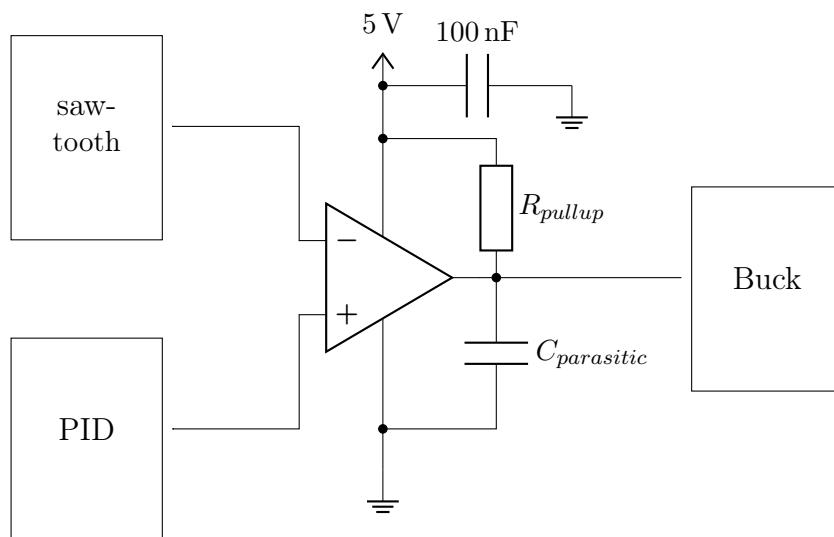

Figure 8.5.: Circuit Implementation of the PWM Generator using the LM393 Comparator
2. Connect the controller to the PWM generator as shown in Figure 8.5.